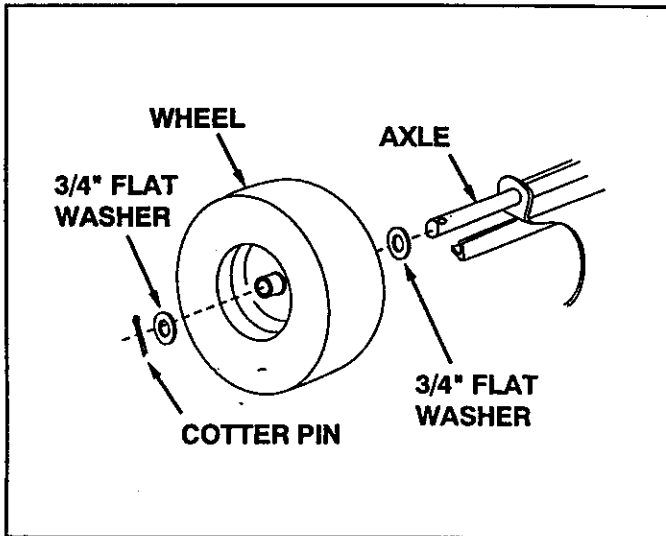

FIGURE 6
- Assemble a 3/4" flat washer, a wheel with the valve stem facing out, and another 3/4" flat washer onto the axle. Insert a cotter pin through the axle, spreading the ends so that a hub cap can fit over the cotter pin. Assemble a hub cap by pressing it onto the 3/4" flat washer. Repeat on other end of axle. See figure 6.